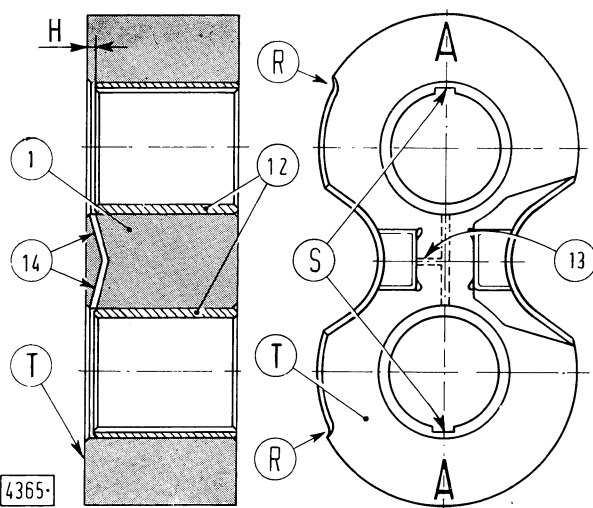

Fig. 256 - Pressing the Bushes into A.M. and P.M. Pump Supports
In case of replacement, reassemble bushes (12, Fig. 256) onto the supports noting the following points:—
- Position lubrication slots (S) as shown in Fig. 256.
- Bush fitted depth (H) with respect to surface (T)